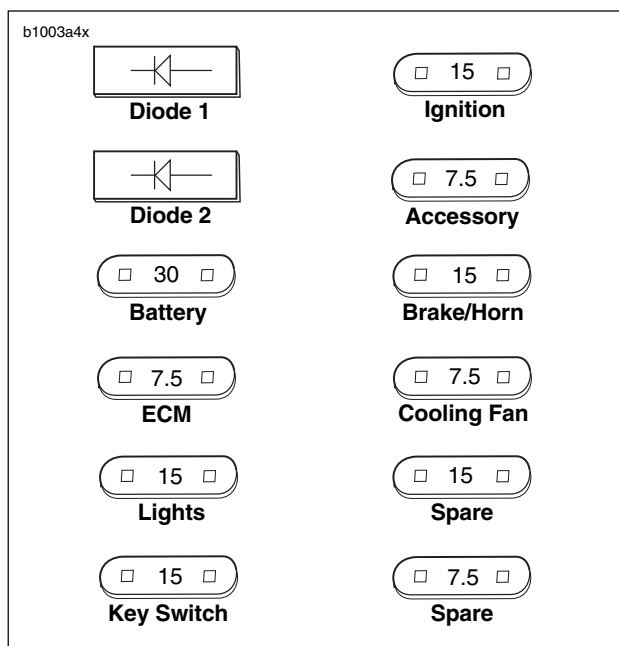

Figure 7-19. Fuses and Diodes
1. See Figure 7-19. Locate diodes within fuse block.